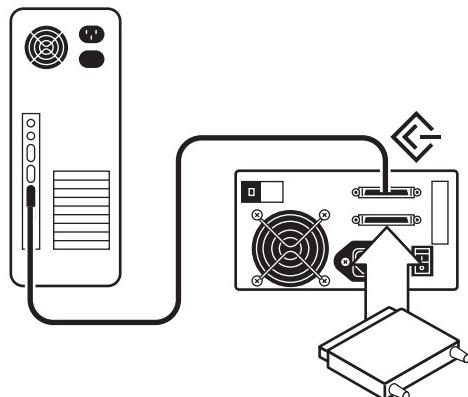

Figure 6: Connecting to the host computer
2. Connect the drive to your host computer and terminate the last device in the SCSI chain (see Figure 6).